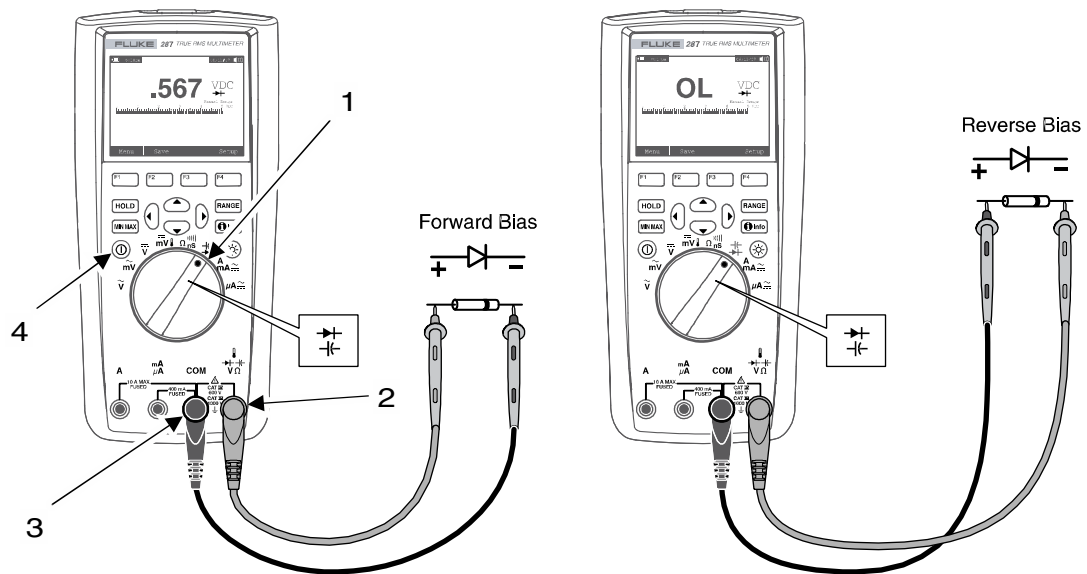

Figure 14. Diode Modes
1. Insert the black test lead into the COM terminal (Figure 14., Item 3).
2. Insert the red test lead into the volts/resistance terminal (Figure 14., Item 2).
3. Press the On/Off button (Figure 14., Item 4) to turn the multimeter on.
4. Position the rotary switch (Figure 14., Item 1) to the diode/capacitance position.